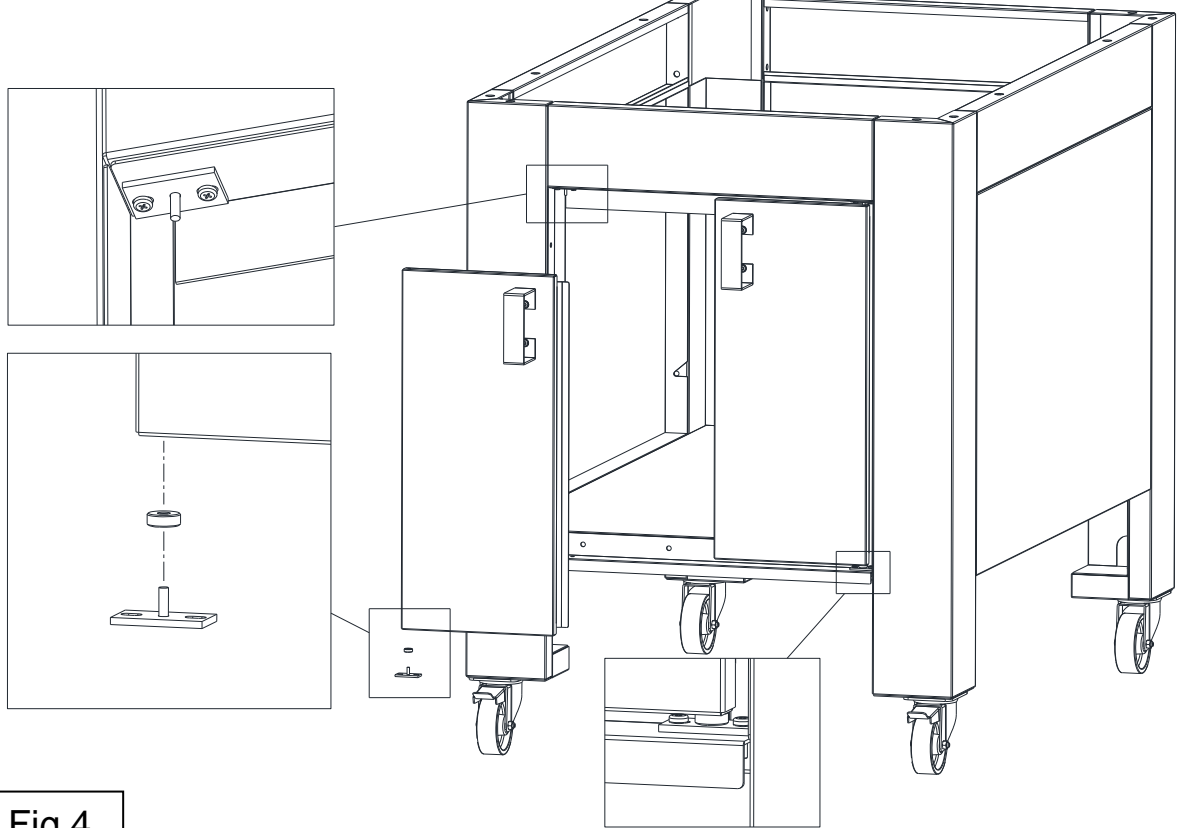

Fig.4
- 4- Secure the upper hinges to the support crosspiece with the screws provided (Fig.4).
- 5- Assemble the lower hinges with the bushings on the doors; place it all on the supporting crosspieces and secure with the screws provided (Fig.4).